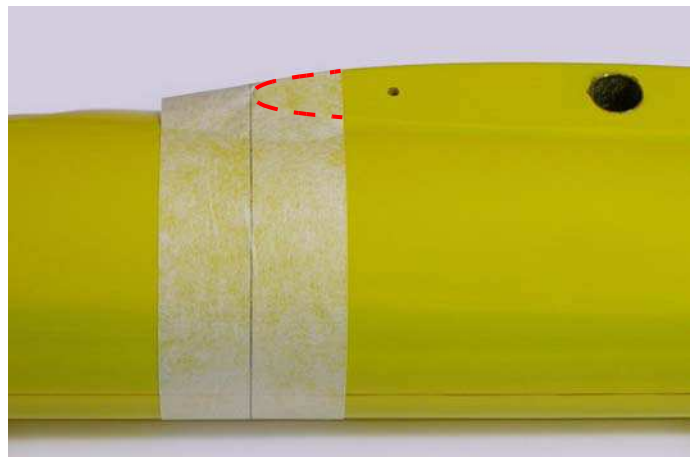

Fig.65: The line must coincide with the leading edge.
- spread the strip of tape around the fuselage making coincide the line with the wing leading edge (see figure 65), on both sides;